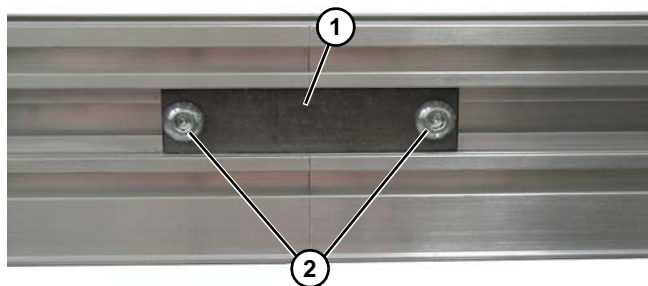

Figure 8
- Join conveyor sections and install connector brackets (**Figure 8, item 1**) and screws (**Figure 8, item 2**) on both sides as indicated. Tighten screws to 60 in-lb (7 Nm).